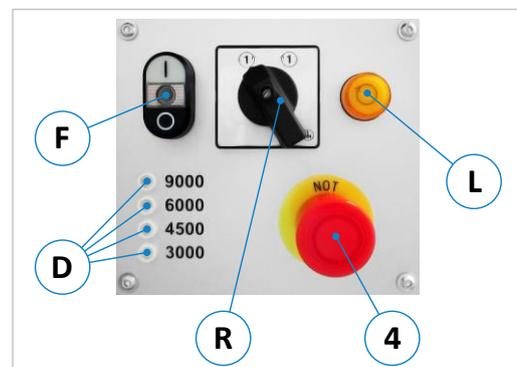

Figure 13: Control panel
After switching on the main switch (1), the speed set according to the V-belt position is indicated via the respective signal lamp (D), see ⇒ Figure 13. The speed setting is made according to chapter ⇒ 11.
In case of danger or malfunctions during operation, the machine can be stopped quickly and reliably by pressing the emergency stop button (4) on the control panel (see ⇨ Figure 13).
- With the spindle running, first press “O” on the switch (F) to switch of the spindle (see ⇨ Figure 13). Then wait approx. 15 → The motor brake opens automatically.